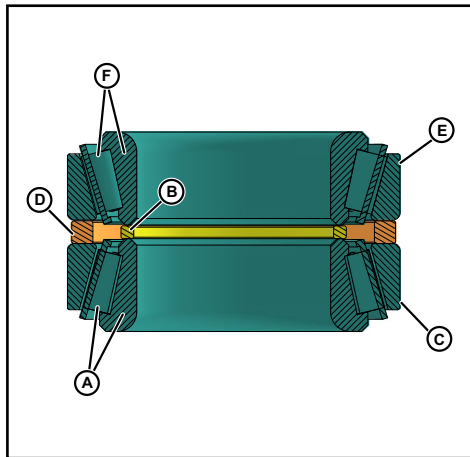

Figure 78 - Bearing Assembly
NOTE: DO NOT interchange the parts of one bearing assembly with another. The parts are precisely matched during manufacturing and must be installed as a matched assembly. See Figure 78.
- Lift the lower cone and roller assembly (Figure 78, item A) out of the bearing stack and place it on the shaft with the radius facing down. Press it onto the shaft until it is seated against the shaft shoulder. **Press only on the inner cone.**